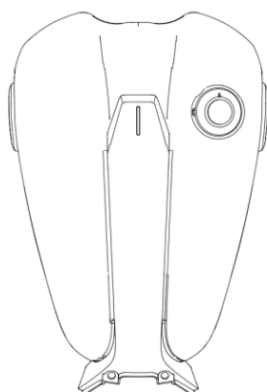

Figure 12 Fuel tank cap
4.8. Opening method of fuel tank cap (Figure 12)